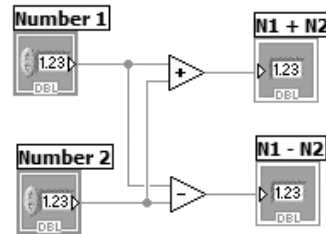

Figure 3.78
10. You may have to use the Positioning tool to reposition some of the terminals, as shown in Figure 3.78. Then use the Wiring tool to wire the terminals together. First select it from the Tools palette, and then click once on the numeric control's terminal and once on the appropriate terminal on the **Add** function to draw a wire. A solid orange line should appear. If you mess up and get a dashed black line instead of a solid orange one, select the wire fragment with the Positioning tool and hit the <delete> key; then try again. Click once and release to start the wire, click any time you want to tack a new segment (which turns a corner), and click on a destination to finish the wire.